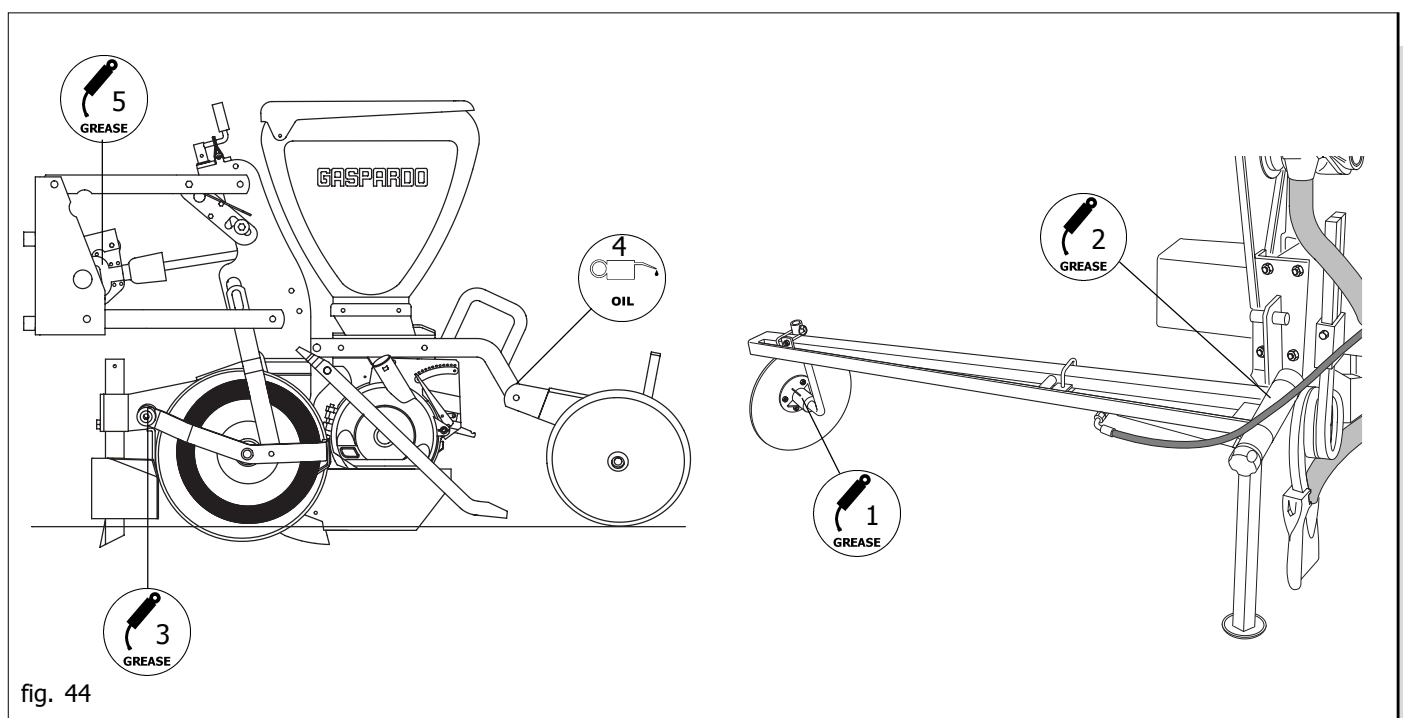

fig. 44
- Grease the row-marker disc pin (1 Fig. 44).
- Grease the pin of the seeding depth control wheels (3 Fig. 44).
- Grease the row-marker arm pin (2 Fig. 44).
- Oil the height adjuster screw and the tilted rear wheel screw (4 Fig. 44).
- Grease the bevel gear pair of the Cardan shaft (5 Fig. 44).